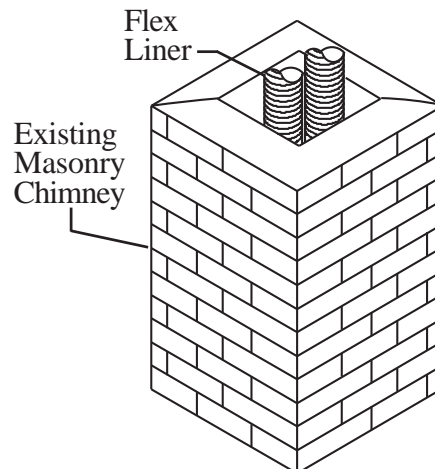

Figure 4
Step 4. Remove the Flex Puller from the Flex Liner and temporarily secure the Flex Liner at the top of the chimney. Be sure to leave 2-3 inches of flex above the existing chimney to allow for connection to the Termination Box **(Figure 4)**